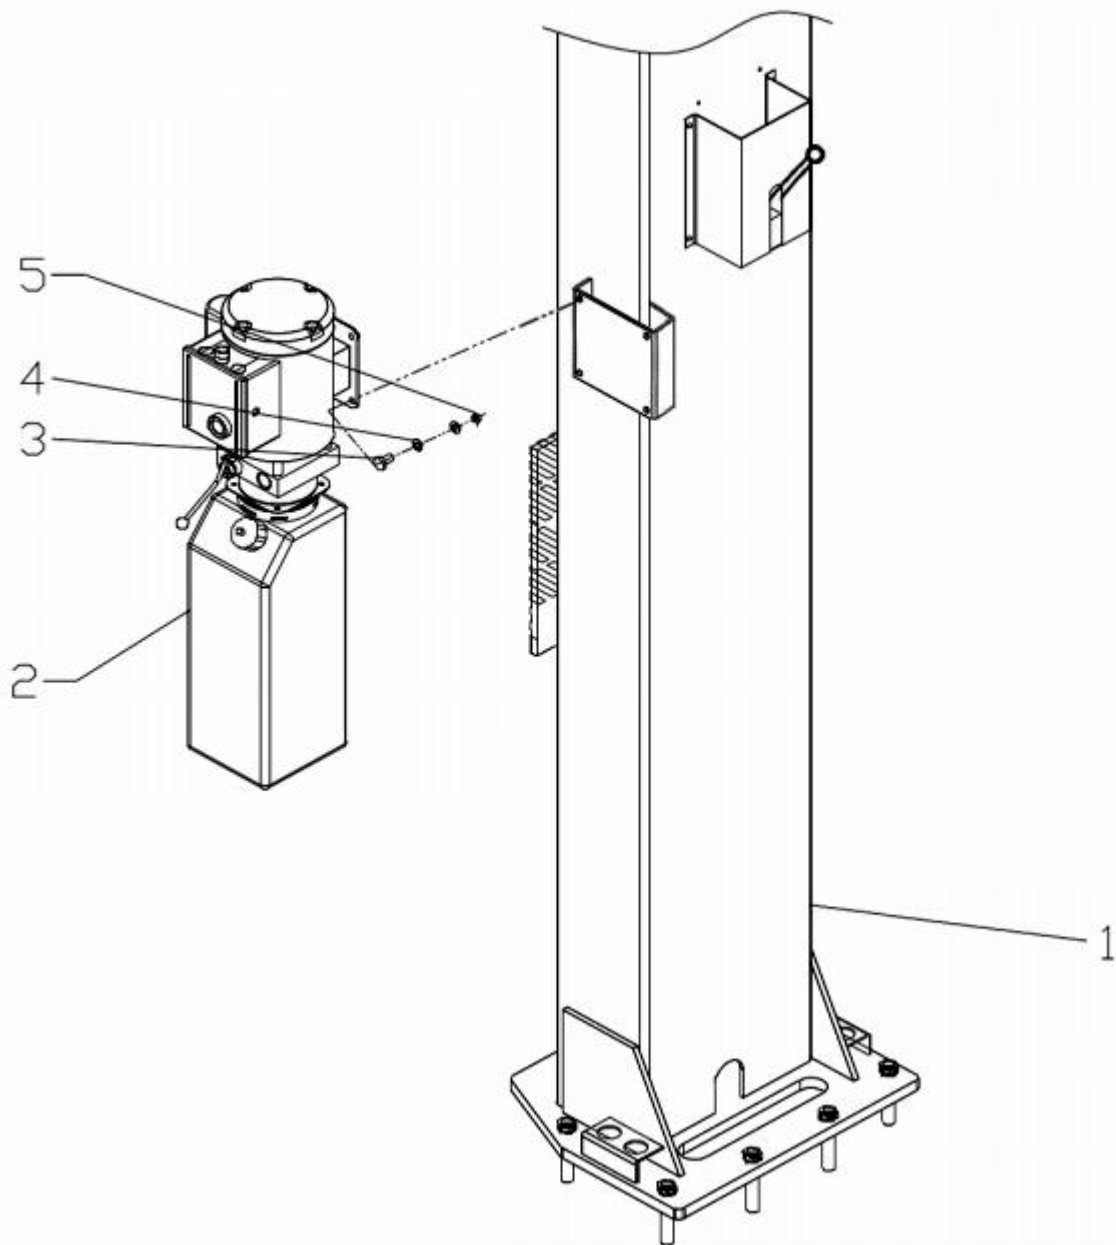

Fig. 32
M. Install power unit (See Fig. 32)